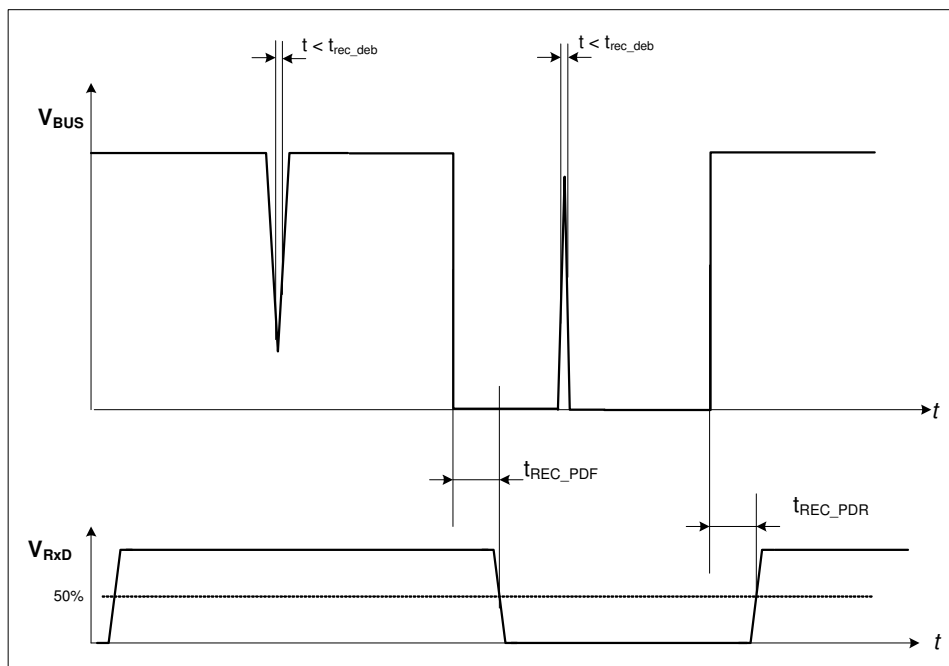

Figure 3 – Receiver debouncing and propagation delay
- [6] See Figure 3 – Receiver debouncing and propagation delay